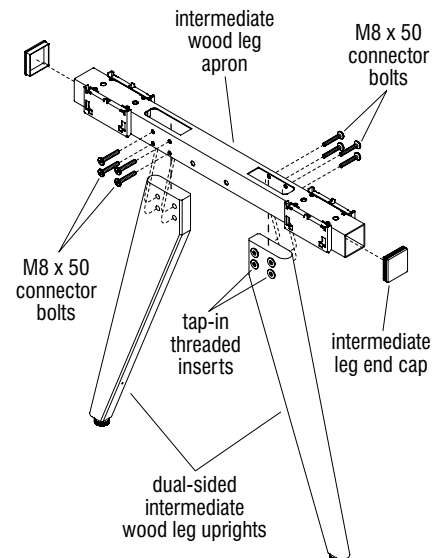

Figure 7 - Intermediate Wood Leg
3. Position the intermediate wood leg uprights as illustrated in figure 7, having each upright side with the inserts facing away from apron side with the M8 x 50 connector bolt holes. Insert leg uprights into the apron slots (Figure 7).
4. Align the mounting holes of the wood leg with the holes in the wood leg apron. Using, four M8 x 50 connector bolts, secure the apron to each wood leg upright (Figure 7).
5. From the hardware parts bag from step 2, locate two intermediate leg end caps. Using a 1½" diameter, weighted hard-rubber mallet, tap an end cap into each open end of the apron (Figure 7).